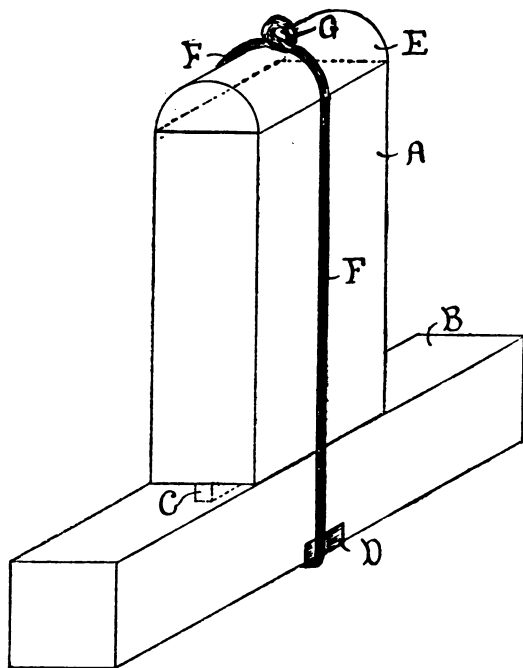

Fig. 7. Extempore Clamp of twisted string or rope for holding irregular-shaped pieces.
work has to be glued which is of the form shown in Fig. 7. This illustration represents an upright (A) which is to be glued into the part B. It has only a very short and narrow pin (shown dotted at c), so that when glued there will not be sufficient hold, even if the fit is perfect, to keep the two pieces in place. Now, no clamp of the ordinary kind will hold such a piece of work as this if the length of A is more than a foot or so, yet it must be clamped when being glued, or a chance knock, or even the vibration caused by a passing cart, may put it out of the square. Nor will it be worth